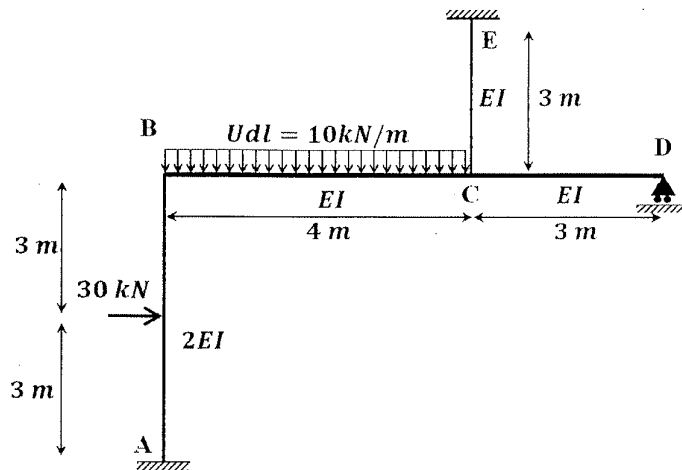

Figure Q3b
- (ii) Figure Q3b shows the loading arrangement in ABC frame. Point A and Point C of the frame are fixed.